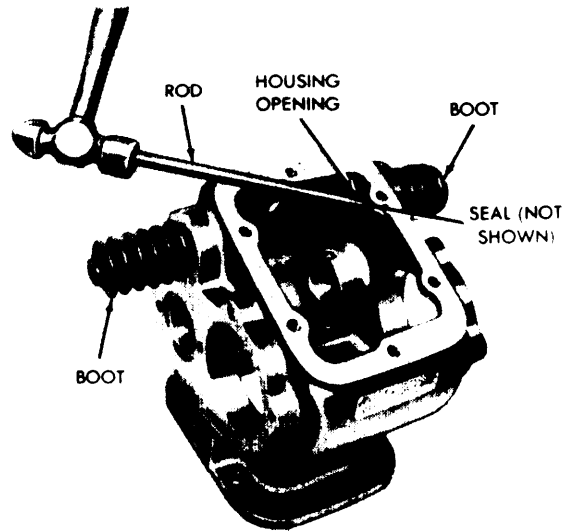

Figure 5-15. Removal of Shifter Shaft Boot and Seal.
k. Shifter Shaft Boot and Seal. Using a blunt rod, tap the seal and boot from the seat in the counter bore. (See fig. 5-15.) It is not necessary to remove the seal unless it is damaged.
- a. Shifter shaft boot and seal. (See fig. 5-15.)